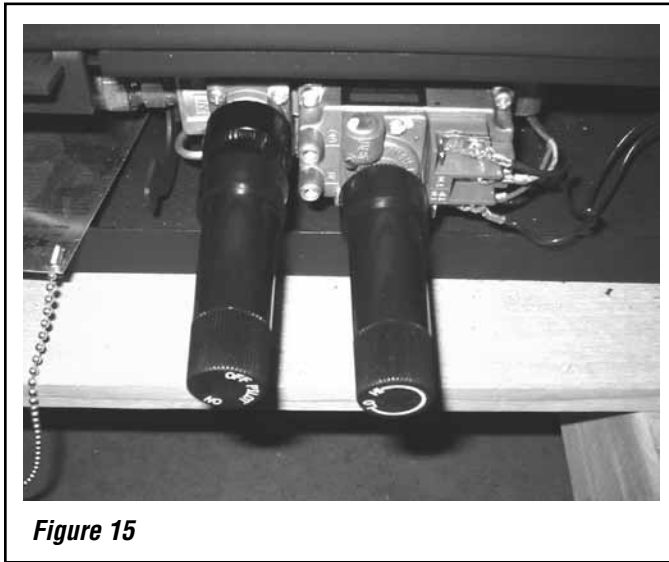

Figure 15
- Extension knobs can now be pressed on both controls (see **Figure 15**).